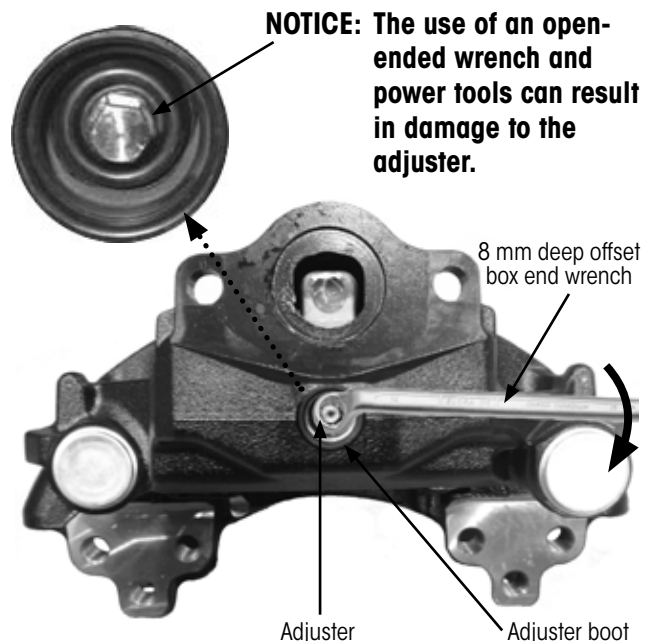

Figure 6: Checking adjuster movement.
4. Use an 8 mm deep offset box end wrench to **turn** the adjuster 1/2 turn clockwise (Figure 6).
5. This step requires two people: **Gently apply the brake** 5 times (braking pressure is approximately 14.5 psi, 1 bar). If the adjuster functions correctly, the wrench will turn incrementally (Figure 6 on page 9).
- The adjuster or the attached wrench does not turn (Figure 6 on page 9).